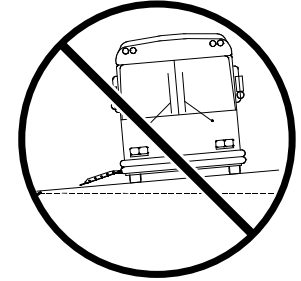

FIGURE 3-1: DO NOT USE RAMP WHEN VEHICLE IS PARKED ON SLOPED GROUND.
- Refer to **Figure 3-1**. Avoid using ramp on sloped or steeply crowned roadways because it may compromise the safety of ramp users. Excessive slope may exceed the requirements presented by ADA (Americans with Disabilities Act).